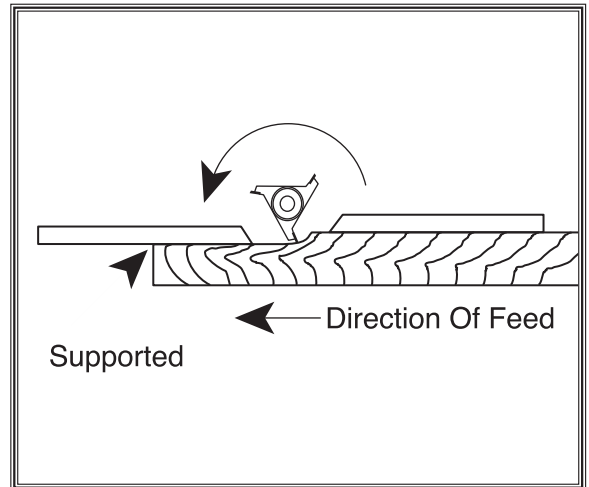

Figure 30. Fence setup for jointing-type operations (Guard Not Shown For Clarity).
7. Once the cutter has come to a complete stop, adjust the outfeed fence so that it just touches the newly cut edge as shown in **Figure 30**.